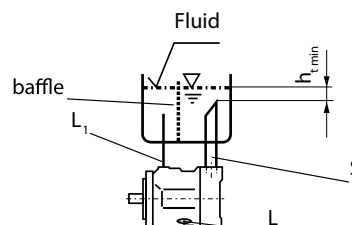

fig. 5
b) Mounting below the reservoir: pipe ports "L" and "S" according to fig. 5, "L" closed.